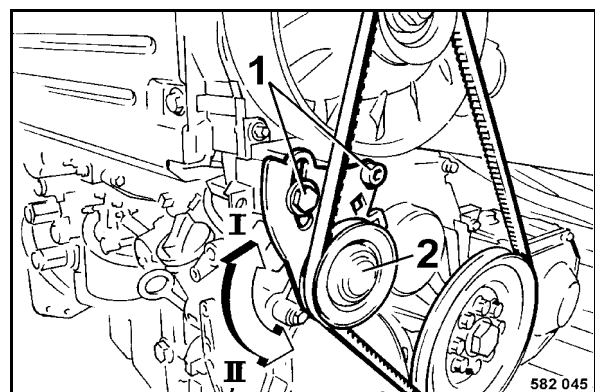

Fig. 153
- Slightly slacken the fastening screw 1 (Fig. 153).